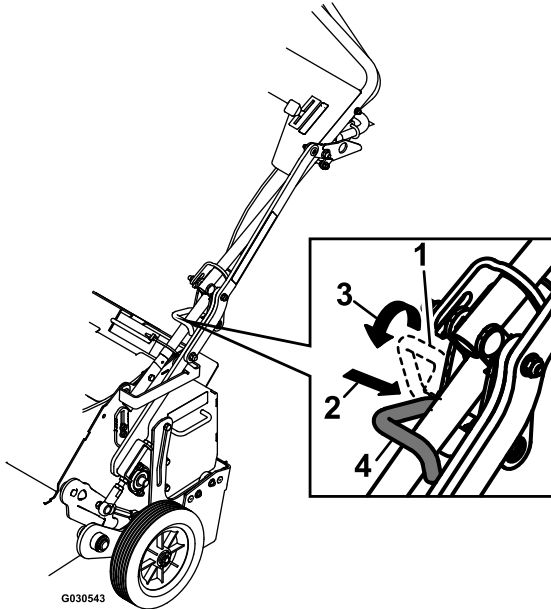

Figure 15
4. Attempt to lock the transport latch pin into the lower arm (see Figure 15).